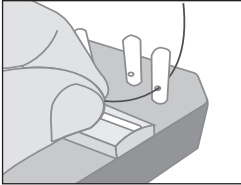

Figure 1
2. Run the end of the string (the end that does not have a loop) through the hole in the tuning post on the right hand side of the harp (Fig. 1).